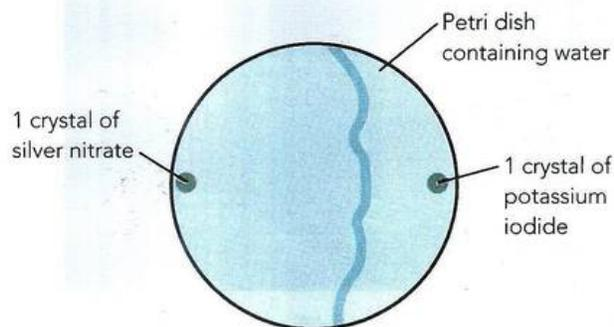

Figure 1.22: Experiment to investigate diffusion through water.
- 2 Using tweezers, put a crystal of silver nitrate at one side of the dish and a crystal of potassium iodide at the other side (Figure 1.22).